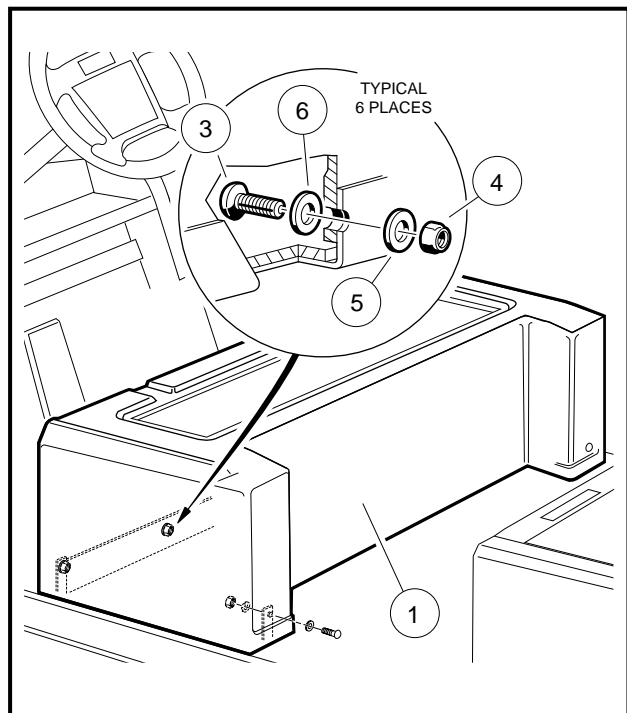

Figure 4-3 Center Body Removal
11. Remove the screws (3), nylon cup washers (6), flat washers (5) and locknuts (4) and lift the center body from the vehicle frame (**Figure 4-3, Page 4-4**).
1. Install in reverse order of removal. Torque screws (3) and locknuts (4) to 18 in-lb (2.0 N-m) (**Figure 4-3, Page 4-4**).